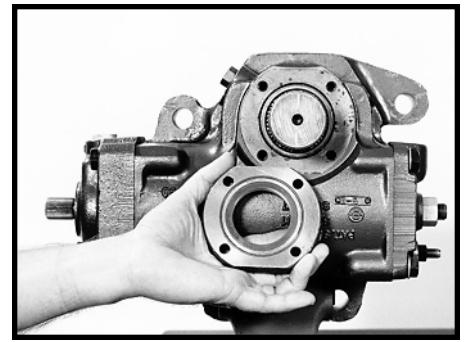

Figure 41
5. Remove the trunnion cover (26). Remove and discard the seal ring (25), the two piece sector shaft seal (23) and the Teflon back-up washer (24) from the trunnion cover. SEE FIGURE 41.